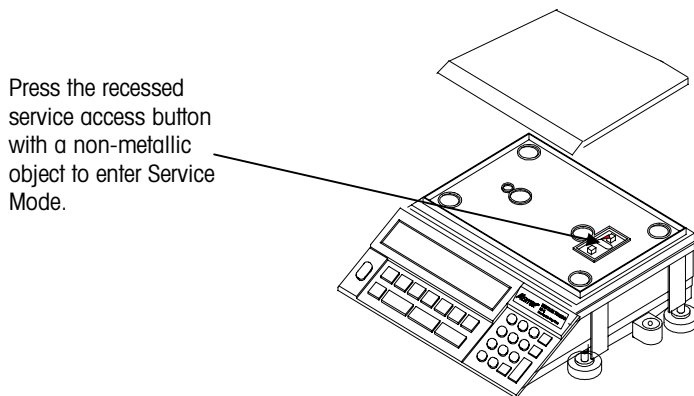

Figure 4-a
- Press the recessed service access button located slightly right of center (see figure 4-a and 4-b) with a non-conducting probe. Do not use a metal tool as it may damage sensitive components. Hold down the access button until the display shows [*****] on the lower right display, then release.